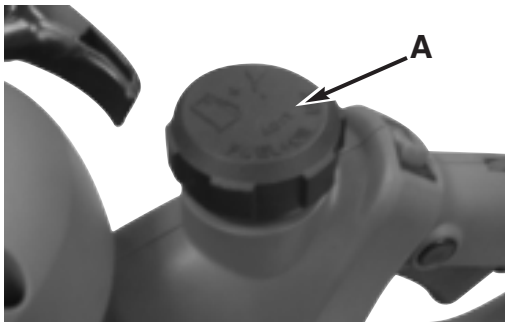

Fig. 15
1. Completely remove fuel cap (A) from fuel tank (B) to be able to remove fuel filter (D) from tank. Use a piece of wire (C) with a hook formed at the end to pull filter out of tank. (Figure 15 & Figure 16)
2. Pull filter (D) off with a twisting motion.